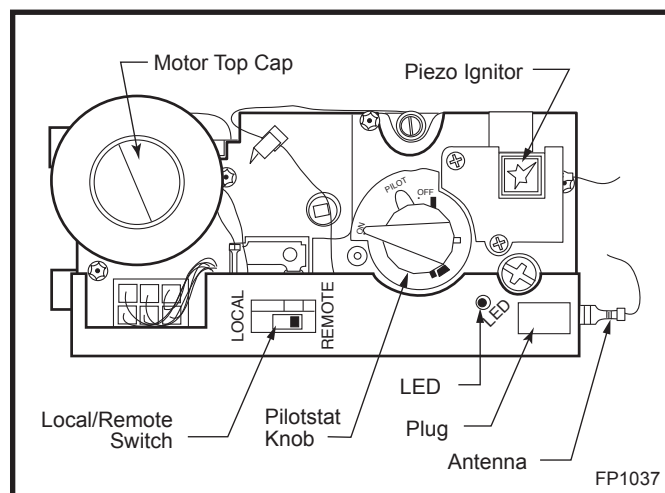

Fig. 57 Comfort control valve.
1. If the manual switch is in remote position, switch it to LOCAL. (Fig. 57)
2. Remove and replace plug on lower right hand side of the valve; Red for LP and Blue for NG. (Page 32, Fig. 57)